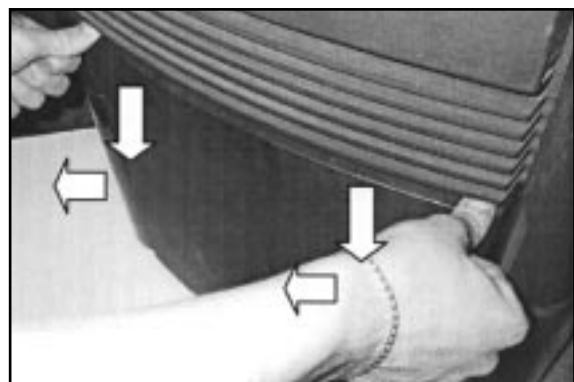

fig. 32
- a. press the bottom door downwards and rotate it outwards (see fig. 32).